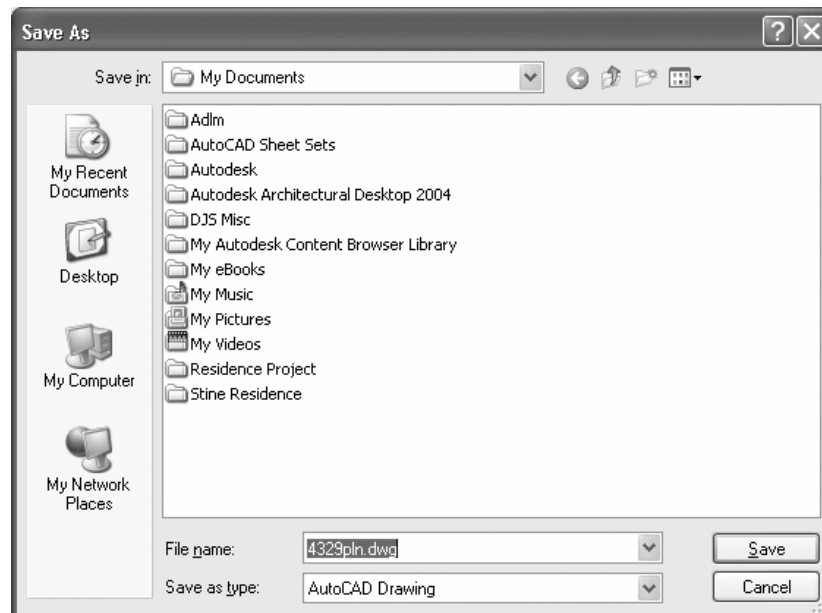

Figure 3-1.4b Saving a file from the internet
8. Browse to your **My Documents** folder and click **Save** (Figure 3-1.4b).